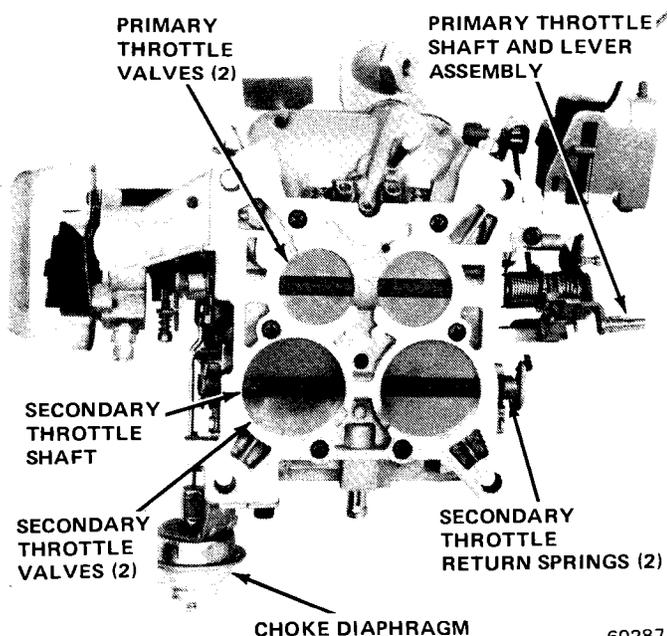

Fig. 4-73 Throttle Body—Bottom View
(17) Remove main metering jets.
(18) Remove accelerating pump inlet check ball retainer, then turn main body over and catch ball from pump well.
(19) Remove throttle body to main body screws from bottom of throttle body (fig. 4-73) and separate the two castings.
(20) Remove choke housing cover screws, cover, gasket and thermostatic spring.
(21) Remove choke diaphragm assembly.
(22) Remove retainers from secondary throttle-lever-to-primary-throttle connecting link, remove link.
(23) Remove throttle kicker assembly.
(24) If it is necessary to remove throttle plates or shafts from throttle body, remove throttle plate attaching screws and plates.
(25) Slide secondary throttle shafts and return springs out of throttle body.
(26) Remove screw from primary throttle shaft and remove fast idle lever and adjusting screw. Slide throttle shaft and primary throttle shaft and lever assembly out of throttle plate.
(27) Remove primary throttle lever assembly retainer, then slide lever and springs off shaft.
(28) If it is necessary to remove fast idle cam or bushing, carefully press bushing out of choke housing and bushing column.